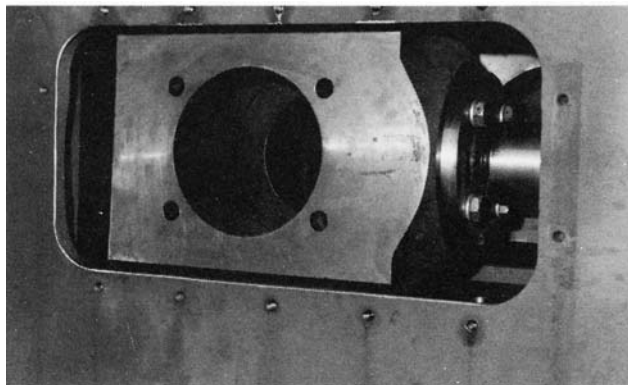

Figure 5-14 Crosshead Assembly
2. Remove piston, piston rod and lines. (See LINERS). Remove rod lubrication pipe (Figure 5-14).